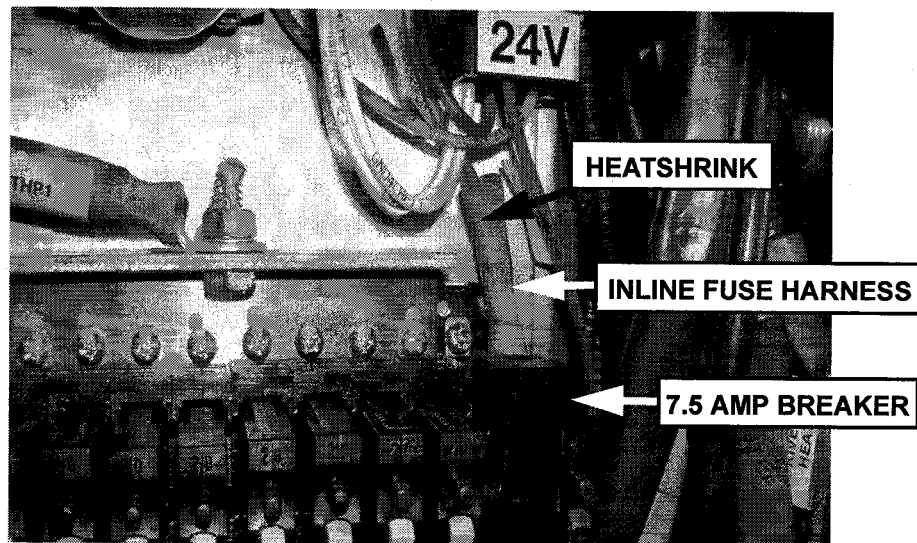

Figure 1-11 Inline Fuse Harness (Reference Photo)
4. Route inline fuse harness **081009517** to the breaker bar. See **Figure 1-11**
5. Add two inches of heatshrink BS-2611574 over the end of inline fuse harness 081009516. See **Figure 1-11**
6. Install inline fuse harness **081009517** to the right most position of breaker bar. Torque mounting hardware to 12 in-lbs. See **Figure 1-11**
8. Install 7.5 AMP circuit breaker to the right most position of breaker bar. See **Figure 1-11**